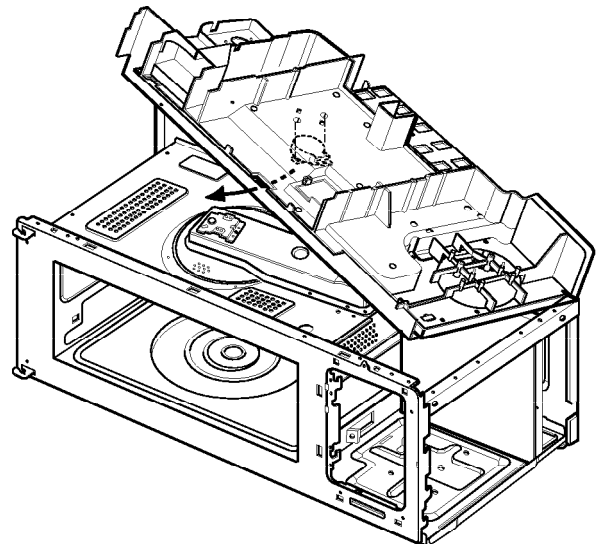

Figure 33
- (3) Lift the air duct and disconnect the leadwire from the stirrer fan motor. (Figure 33)
- (4) Remove the stirrer fan motor.